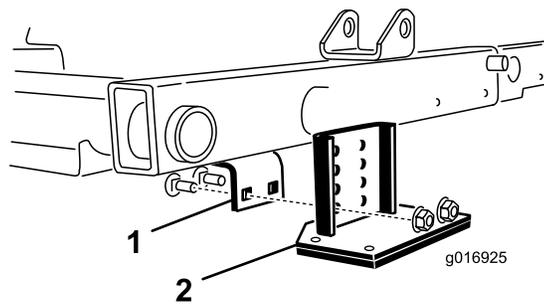

Figure 40
2. Locate the frame bracket above the center cutting unit (Figure 40).
3. While pressing down on the front roller of the center cutting unit, determine which holes on the tipper bracket align with the frame bracket holes to attain the same roller contact when the tipper bracket is installed (Figure 40).
4. Lower the cutting units and mount the tipper bracket to the frame with the 2 carriage bolts and 2 nuts supplied with the kit (Figure 40).